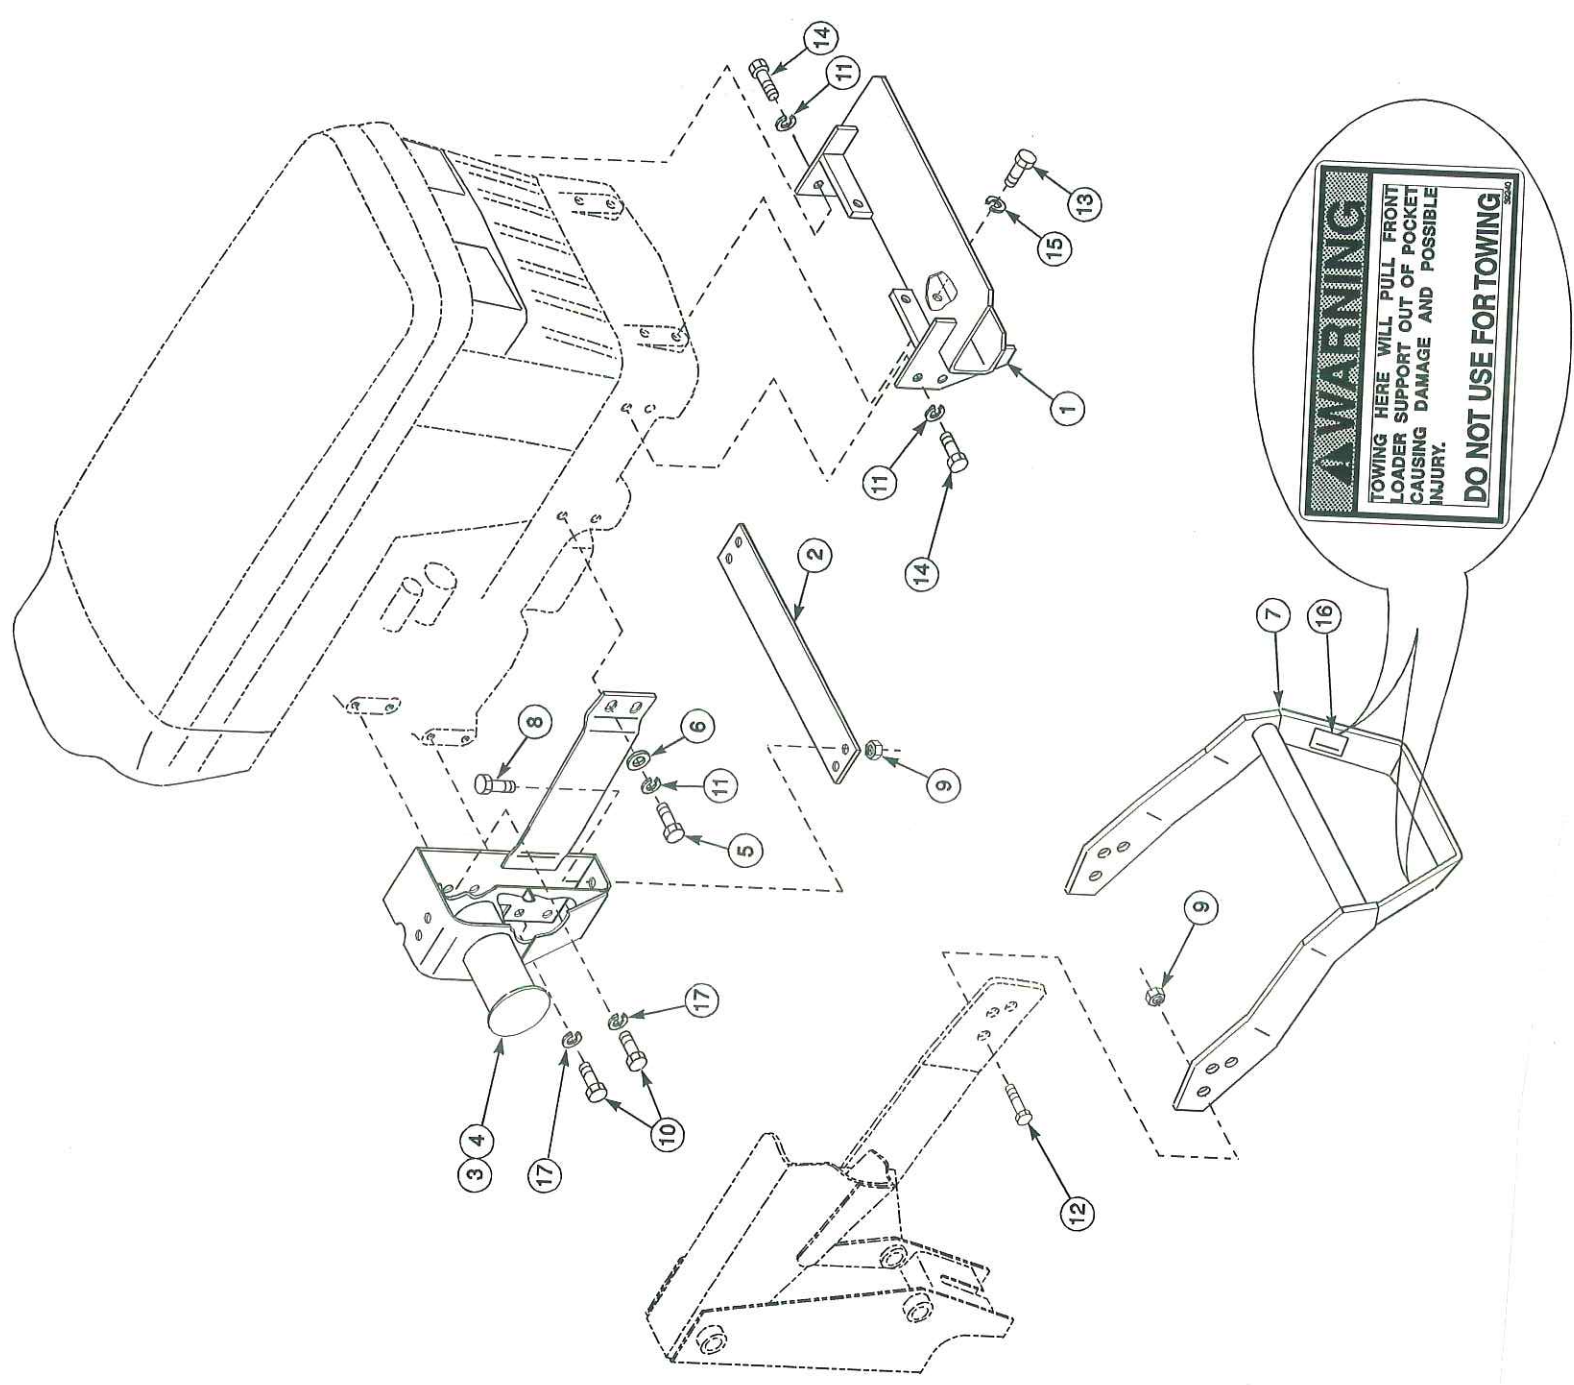

Figure 1
**INSTALLING MOUNTING BRACKETS (Figure 1)**
1. Fasten front mounting bracket (1), with longer flange on top, to tractor front casting using 3/4 x 1-3/4 cap screws (13) and 3/4 lock washers (15) in the front